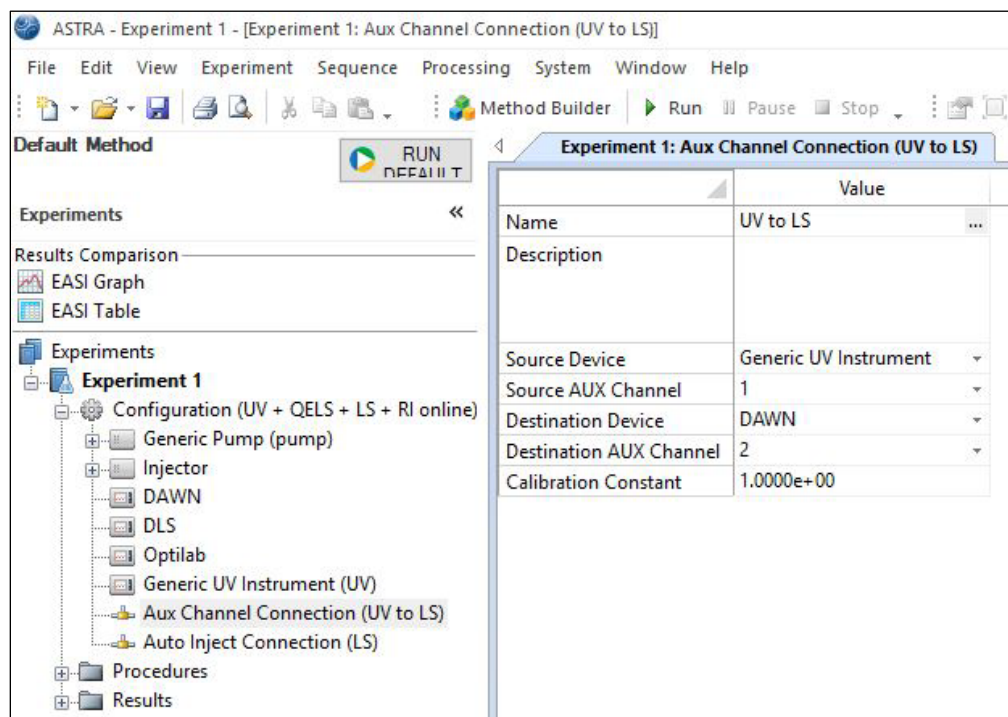

Figure 8. A screenshot of the ASTRA software with the **Configuration** node expanded and the **Aux Channel Connection (UV to LS)** selected.
4. Double-click on **Aux Channel Connection (UV to LS)** to see the settings for this configuration in the right-hand pane (see Figure 8). One **Aux Channel Connection** has to be defined in the experiment configuration for every physical analog input connection that has been established to enable ASTRA software to display and use the analog signal. In case multiple auxiliary input channels have been connected, multiple **Aux Channel Connections (UV to LS)** need to be defined. (Calculating the concentration of a sample from an auxiliary input is only possible for an **Active Channel** defined in step 2 above.)